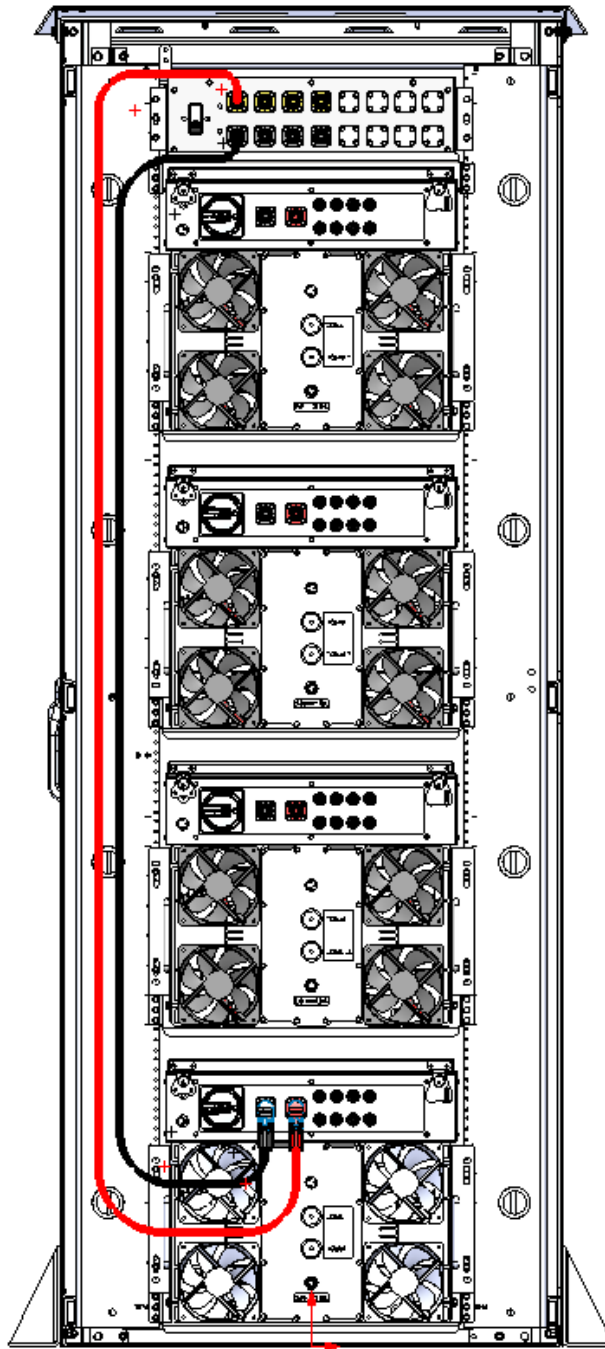

FIGURE 19: SURLOK CABLING ROUTED TO PRIMARY (INPUT) FEED #4
- (2) 8-foot SurLok Cables for SPOT #4 shown in Figure 19.